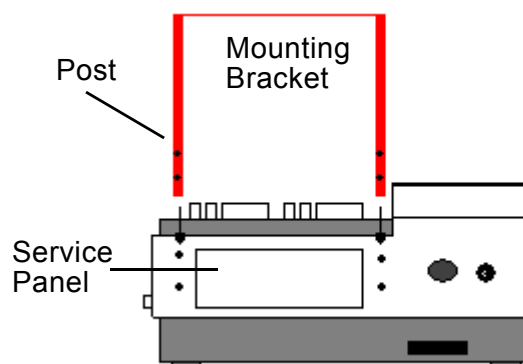

Figure 8. Mounting Bracket Position, Back of TurboVap
- 1 Position the mounting bracket against the back of the concentrator with the two cutouts in the top of the bracket toward the front of the concentrator. Line up the two holes on each bracket post with the two holes on each side of the rear service panel as shown in Figure 8 on page 26.